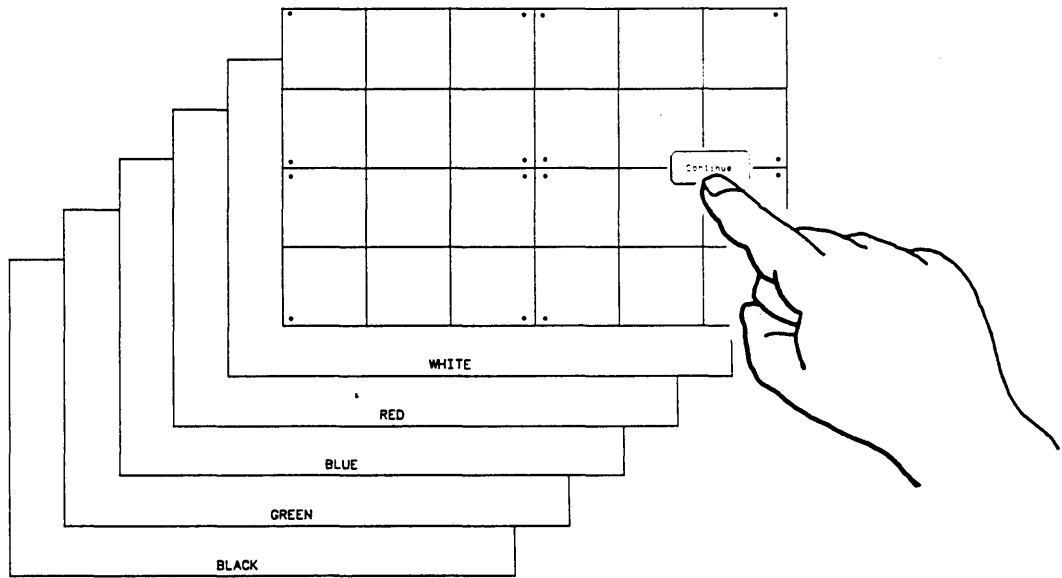

Figure 6-9. Selecting the Color Display Test Patterns.
- b. Touch the **Continue** field. The white raster pattern is now displayed. With every touch of the **Continue** field, the next color test pattern will be displayed (see figure 6-9).